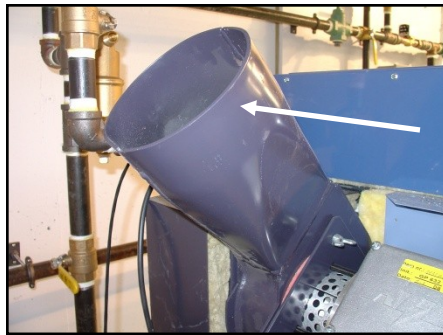

Fig. 3.4 Flue Gas Exhaust Pipe
- The chimney connection pipe must be placed over the outside of the boiler's flue gas exhaust pipe (**Fig. 3.4**). A boiler flue with an internal dimension of 5.8" (149mm) is used – see specification data in **Section 6.3**.